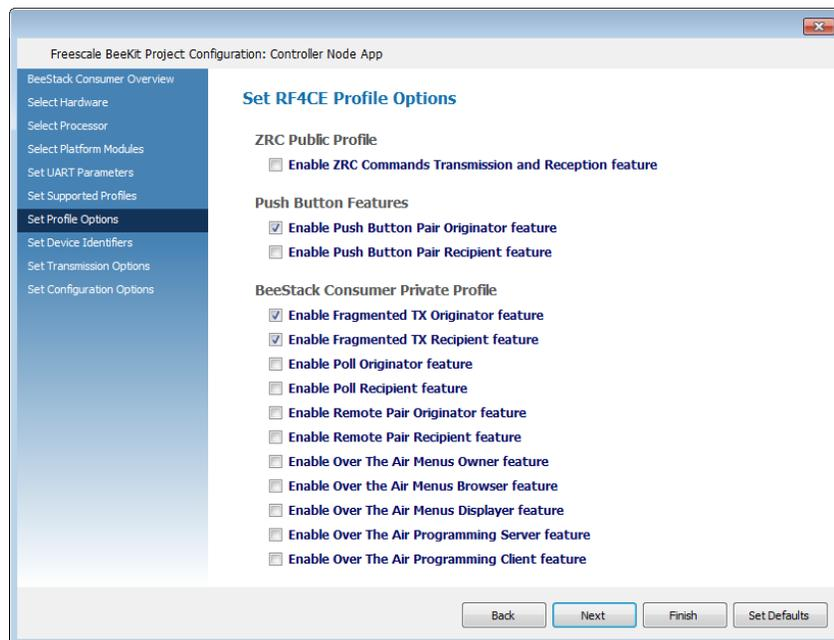

Figure 2-9. Set RF4CE Profile Options Page
5. Leave the default Supported RF4CE Profiles settings as it is. Click the Next button. The RF4CE Profiles Options page appears as shown in Figure 2-9 (HCS08 codebase version).